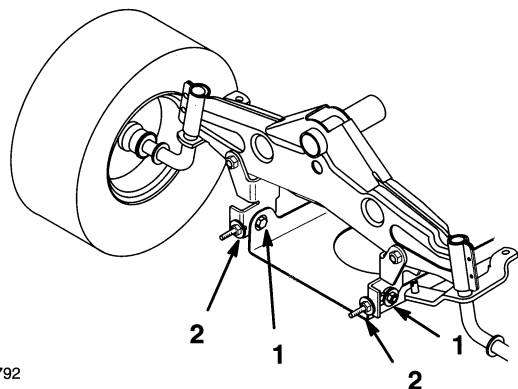

Figure 14
6. To adjust front-to-rear blade slope loosen front pivot plate mounting bolts slightly (Fig. 14).
7. Rotate lock nuts on eyebolts to change adjustment (Fig. 14). To raise the front of the mower tighten the eyebolt lock nuts. To lower the front of the mower loosen the eyebolt lock nuts.
8. After adjusting both eyebolt lock nuts evenly, check the front-to-rear slope again. Continue adjusting eyebolts until the front blade tip is 0-3/8" (0-9.2 mm) lower than the rear blade tip (Fig. 14).
9. When front-to-rear slope is correct, tighten the pivot plate mounting bolts (Fig. 14).